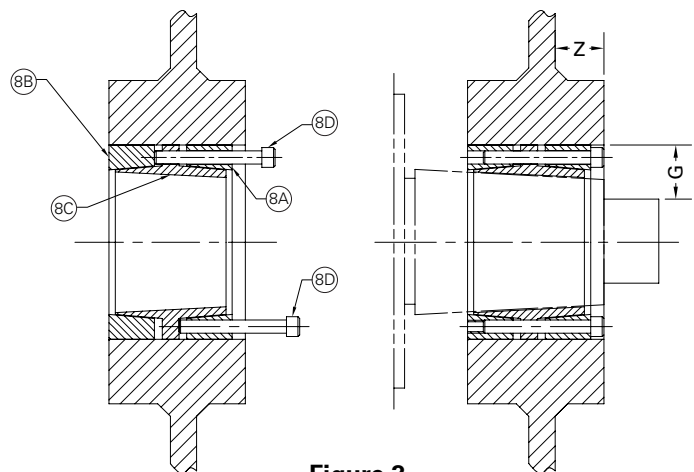

Figure 3
2.1.6 Loosen all locking screws (8D) of taper shaft lock (TSL) (8) by a minimum of four turns and transfer at least two of the locking screws (8D) to push-off threads in front clamp collar (8A) to disengage this part from center collar (8C). Similarly, transfer at least two locking screws (8D) to push-off threads in center collar (8C) to disengage this part from rear clamp collar (8B). See Figure 3.